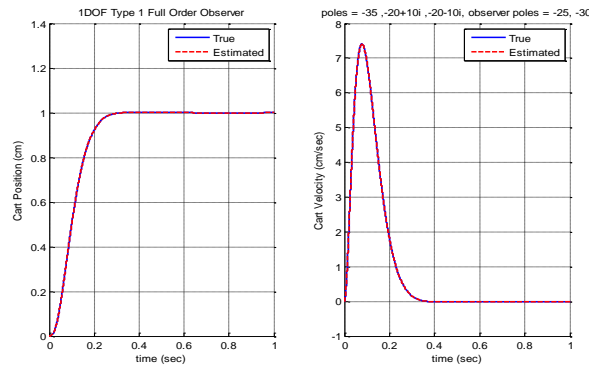
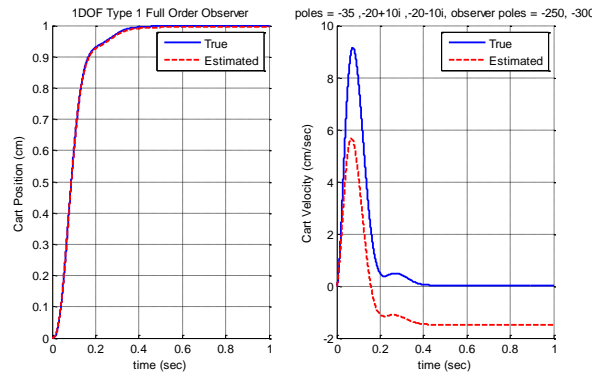

Figure 17: Full order observer state variable feedback with integrator
Figure 19: Full order observer with integrator with a bad model
- For an input of 1 cm, a final time of 1 second, place the state feedback poles at $p_s = [-35, -20+10j, -20-10j]$ and observer poles at $p_o = [-25, -30]$, you should get a graph like that in Figure 17.
- Now change the observer poles so they are 10 larger than before ($10 \cdot p_o$). You should get results like those in Figure 19. Note that in both Figures 17 and 19, the steady state error is zero, even if the observer is not converged. Make sure to let $\mathbf{A}\mathbf{A} = \mathbf{A}$ before you move on.